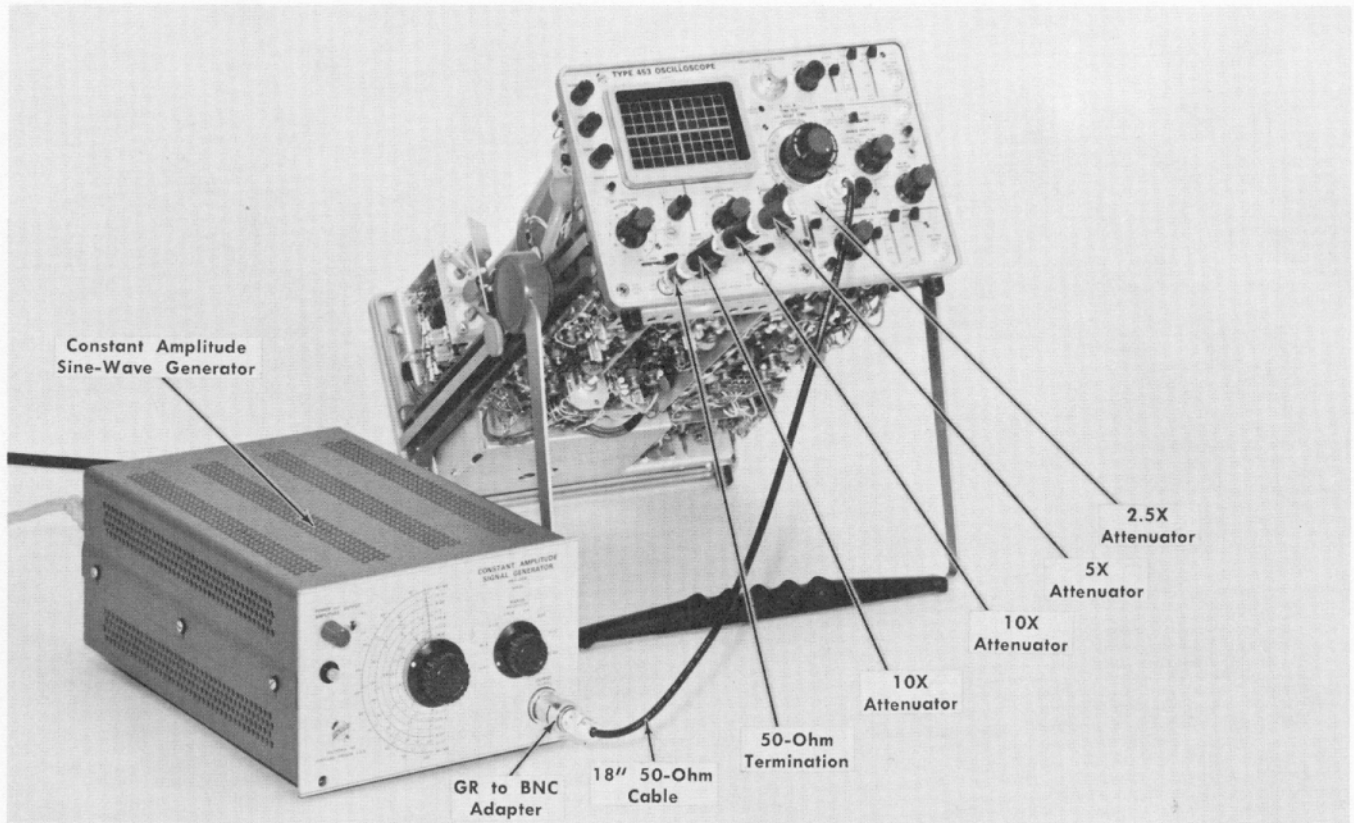

Fig. 6-33. Initial test equipment setup for steps 29 and 30.
29. Adjust Trigger Level Centering ❶
- a. Test equipment setup is shown in Fig. 6-33.